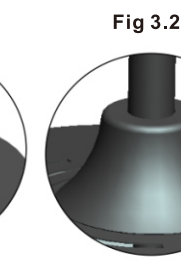

Fig 3.2.4
- Slide the wiring cover down until it rests on top of the motor assembly. (See Fig 3.2.4)